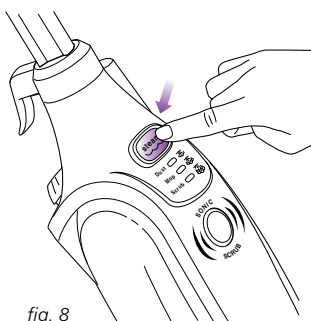

fig. 8
- Press the STEAM button once for DUST setting (DUST lighted setting indicator will illuminate). DUST setting is a light steam for a quick dusting and the best dry time. (fig. 8)